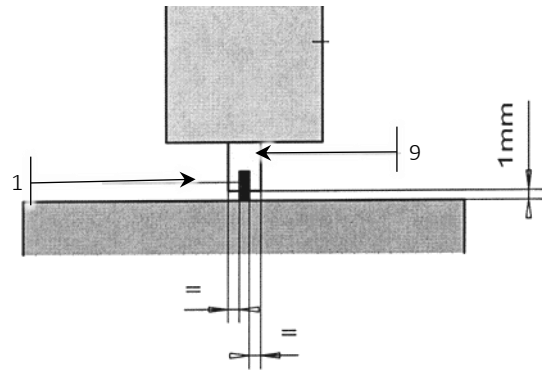

Fig. 4 Center of Y Direction
- Loosen the three knurled screws (2) at the support base (3) and center the quick centering device in Y-direction to the measuring device by using the knurled screws (4) (see Fig. 4)
- Tighten the knurled screws (2).